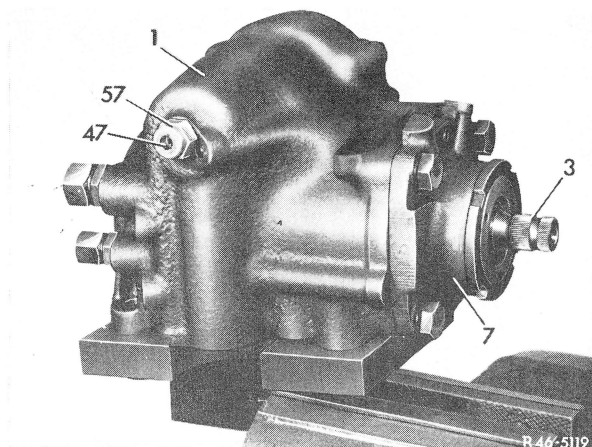

Fig. 2
- 1 Attach steering (1) to assembly device (Fig. 2).
- 2 Unscrew self-locking hex. nut (57) from adjusting screw (47) while applying counterhold to adjusting screw (Fig. 2).